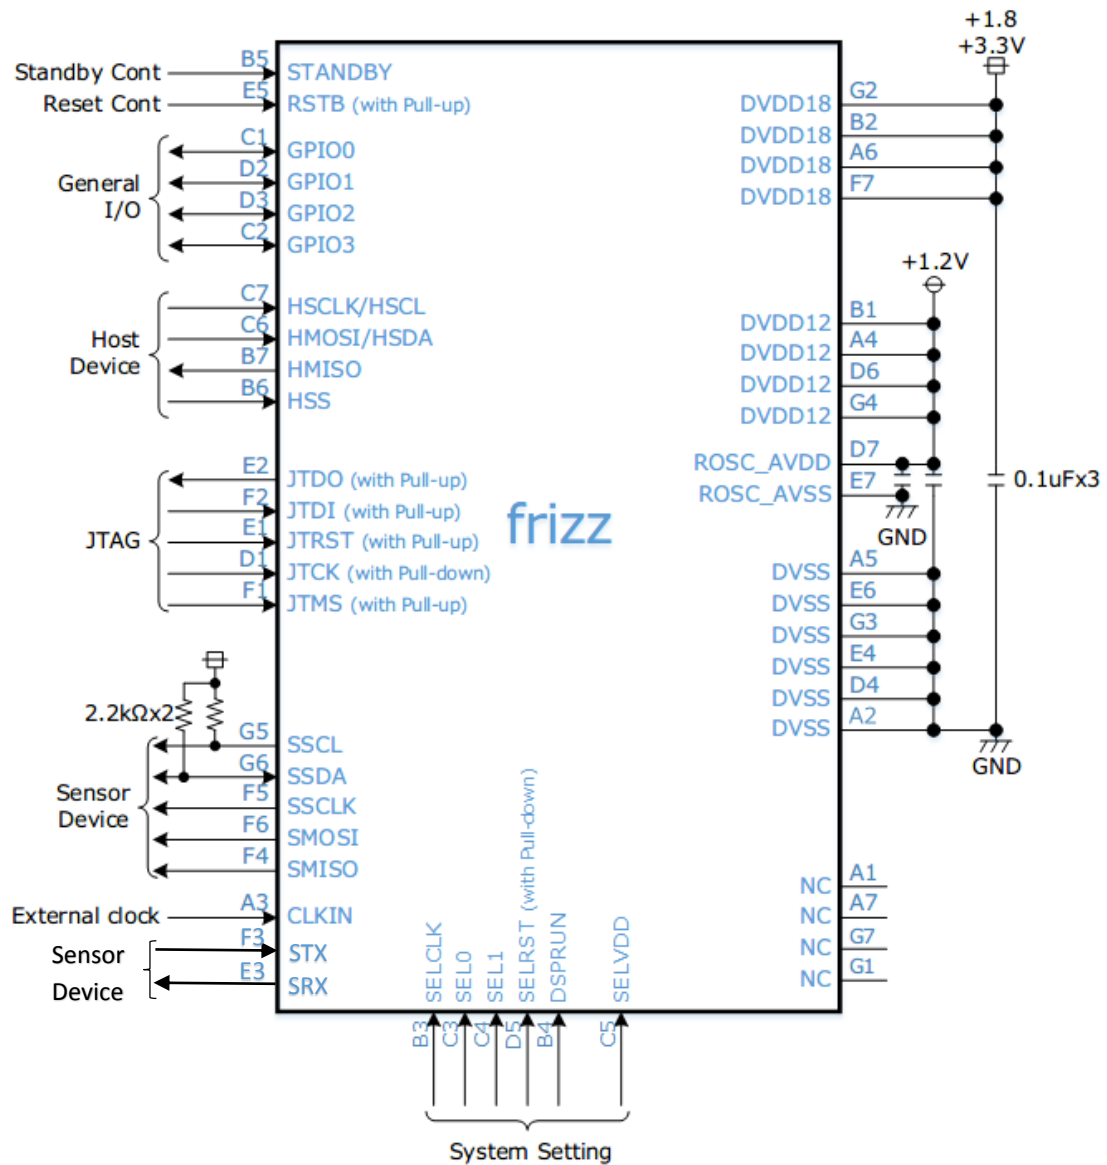

Figure 18-1 Pin Process/Peripherals
12.AC Characteristics Table12-1,12-2: Change description as below. <Before> Table 12 1 AC Characteristics (DVDD=1.8V) Table 12 2 AC Characteristics (DVDD=3.3V) <After> Table 12 1 AC Characteristics [STX,GPIO(0,1,2,3),JTDO] (DVDD18=1.8V) Table 12 2 AC Characteristics [STX,GPIO(0,1,2,3),JTDO] (DVDD18=3.3V) Table 12 3 AC Characteristics [HSDA,HMISO,SSCLK,SMOSI,SSCL,SSDA] (DVDD18=1.8V) Table 12 4 AC Characteristics [HSDA,HMISO,SSCLK,SMOSI,SSCL,SSDA] (DVDD18=3.3V) 18 Pin Process/Peropherals Figure 18-1:add uart pin as below <div><div>Sensor Device</div><div><div></div><div>F3</div><div>E3</div></div><div>STX SRX</div></div>